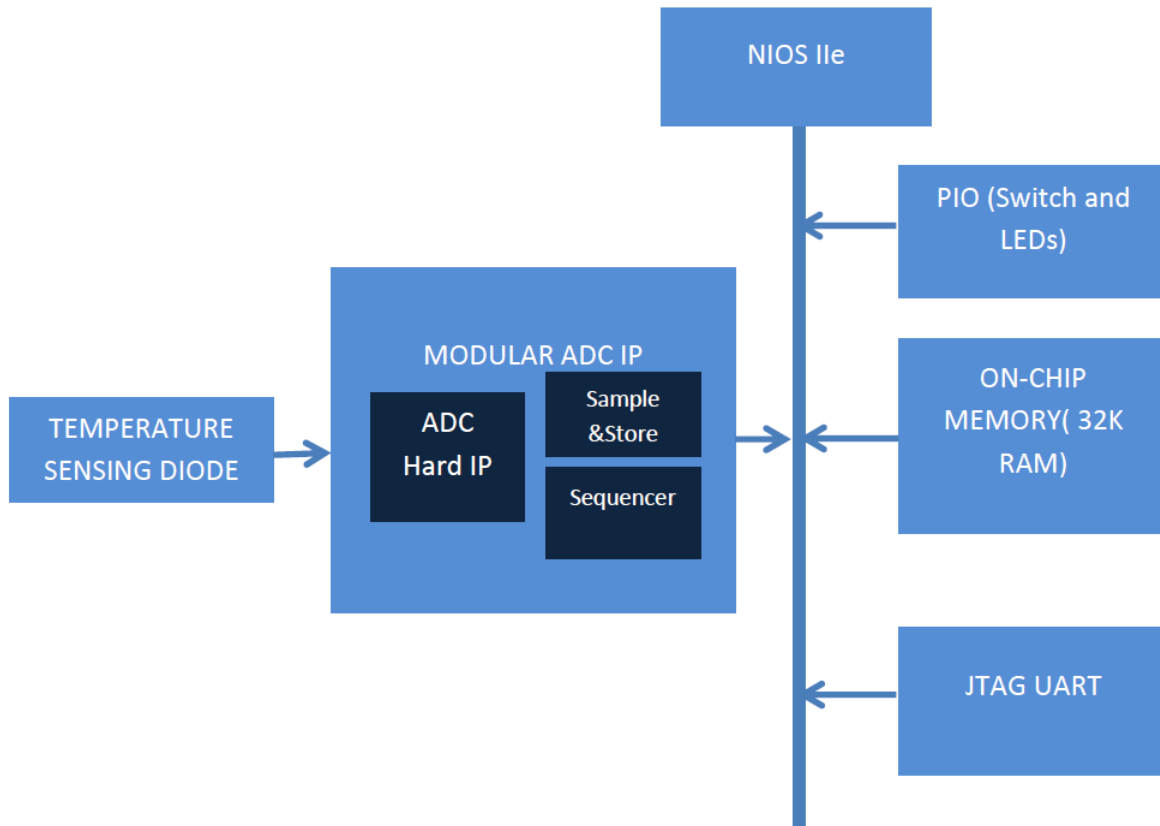

Figure 1 : Qsys System
- 2) nios_setup.qsys is the Qsys system which contains all the modules shown in Figure 1 .